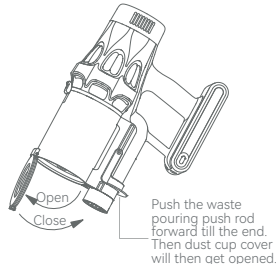

Fig. 2
2. Operate as in Fig. 1 above a waste bin. The dust cup bottom cover will open in a rotary way as in Fig. 2 to pour the solid waste in the dust cup. After that, operate along the arrow direction in Fig. 2 to close the dust cup bottom cover.